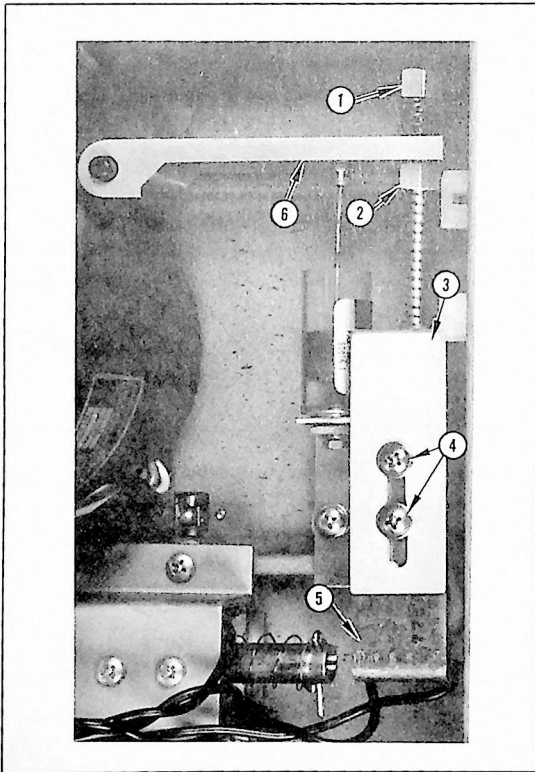

Figure 7-2
PINCH ROLLER ADJUSTMENT PROCEDURE (Figures 7-2 and 7-3)
- b. Loosen the set screws on both adjusting nuts (1 & 2). (See Figure 7-2.) NOTE: Adjusting nut 1 is the nut at the end of the threaded rod (3) and adjusting nut (2) is directly under and against the pinch roller actuating rod (7).
- h. If necessary, readjust the gap clearance by moving the stop bracket (4) mounted to the face of the capstan solenoid. This is accomplished by loosening two screws (5) in slotted holes and moving the bracket as required. (See Figure 7-2.) Be sure that the connecting rod (3) does not bind in the slot on the bracket. Tighten screws.